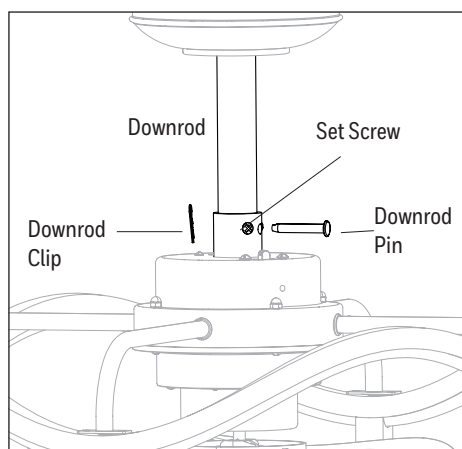

Figure 3.2
2. Insert the downrod into the yoke and reinstall the downrod pin and downrod clip. Then retighten the two set screws (Figure 3.2).